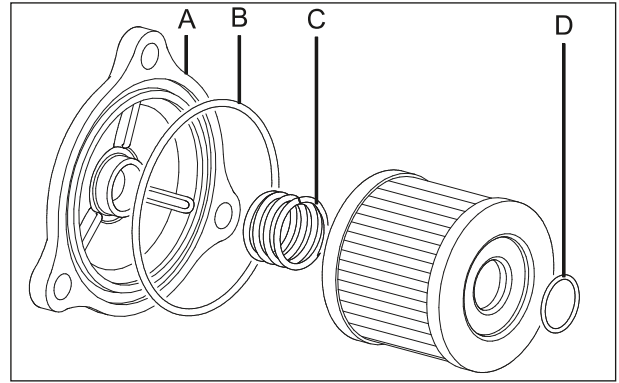

Fig. 2.20
- Remove the cap oil filter (A) along with 'O' ring (B) and Spring (C).(Fig. 2.20)
- Take out the filter complete engine oil along with seal (D). Clean the filter mounting area on the cover crankcase R.(Fig. 2.20)
- Fit new filter complete engine oil along with new seal(D) in the cover crankcase R.
- Refit the cap oil filter (A) along with spring (C) and 'O'ring (B) in the reverse order of its removal. Ensure no damage to the 'O'ring and its proper seating.(Fig. 2.20)